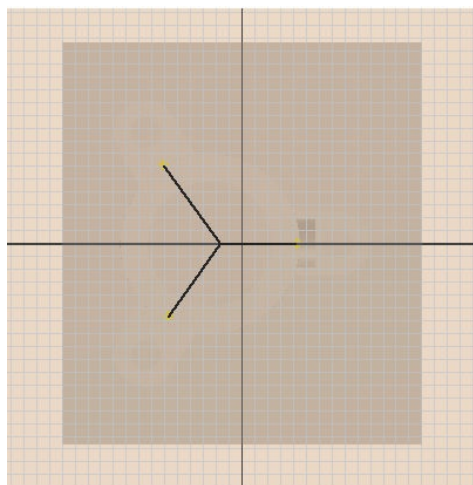

Figure 19-81 Sketch for the runner
3. Create the runner sketch, as shown in Figure 19-81, using the Top view orientation.